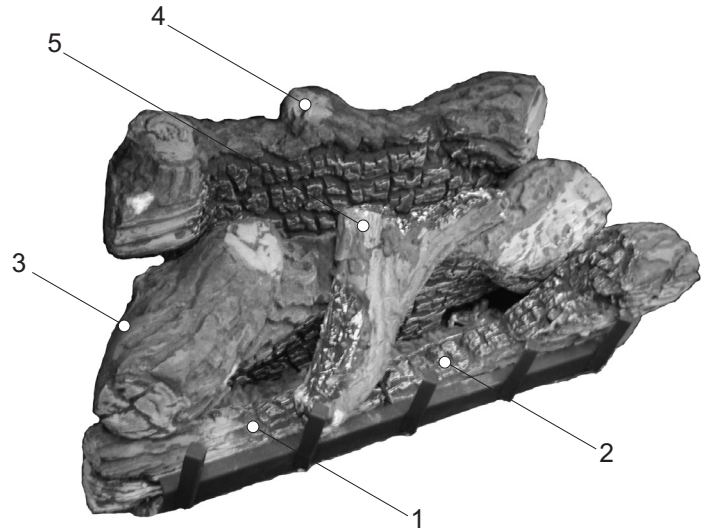
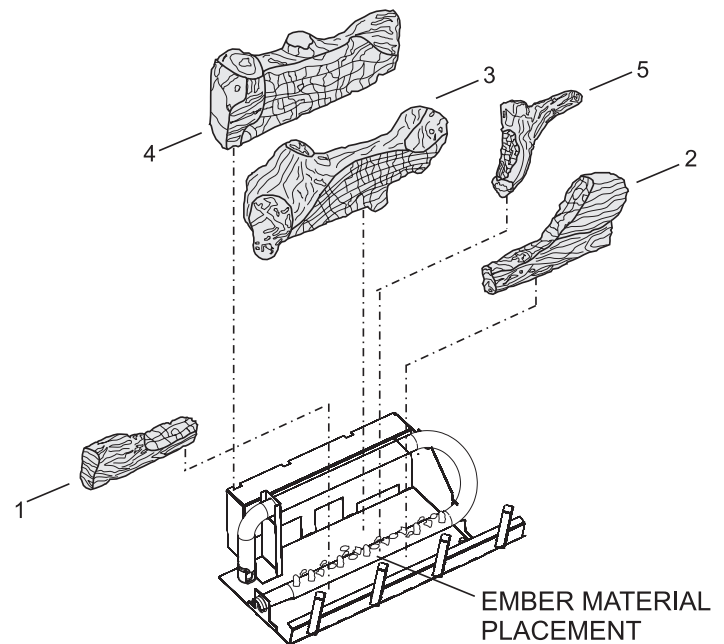

Figure 55
Figure 56
The positioning of the logs is critical to the safe and clean operation of this fireplace. Sooting and other problems may result if the logs are not properly and firmly positioned in the firebox. Please refer to **Figure 55** and **Figure 56** and corresponding WARNING when completing following log placement instructions.
**Attention:** Do not use **Figure 55** or **Figure 56** to order logs. Refer to parts lists and parts views on pages 58 to 59 to order logs and/or ember material for your appropriate fireplace model.